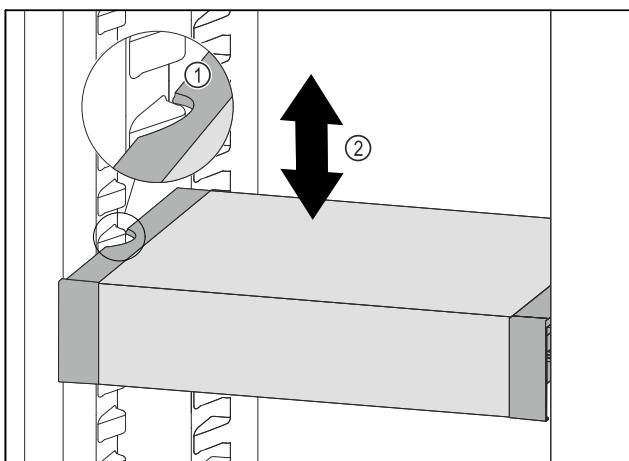

Fig. 125
- ▶ Pull VarioSafe forwards until the recesses in the side of the VarioSafe are at the level of the support rib in the refrigerator compartment. Fig. 125 (1)
- ▶ Move VarioSafe up or down in the refrigerator compartment until the desired height is reached. Fig. 125 (2)